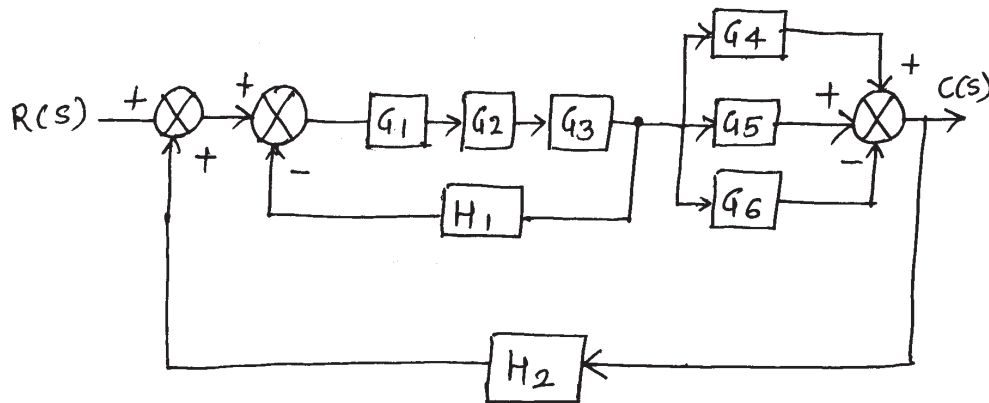

Fig. No. 4
- b) Reduce the given control system using block diagram reduction techniques and obtain its transfer function. (Fig. No. 4)